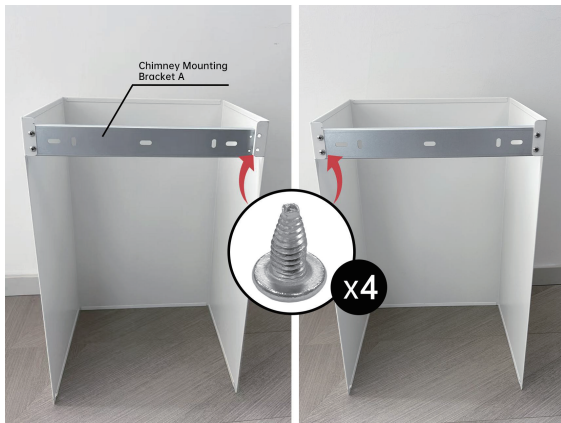

Figure 6
- Install **Chimney Mounting Bracket A** onto the lower chimney cover using the provided screws (**M4x8A**). Figure 6